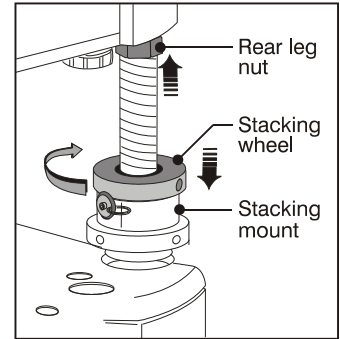

Figure 2.16. Secure All Hardware
- Turn all three stacking wheels until they are ***firmly secure*** against the rest of the stacking mount (Figure 2.16).